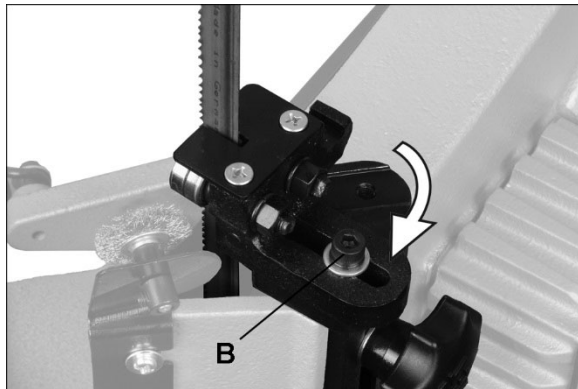

Figure 8-2: lower blade guide rotation (712D only)
3. The blade guide brackets can be rotated to facilitate a more comfortable operating position while in vertical mode. Remove screw (B, Figure 8-2) with 6mm hex key and position bracket in adjacent channel. Re-install screw.